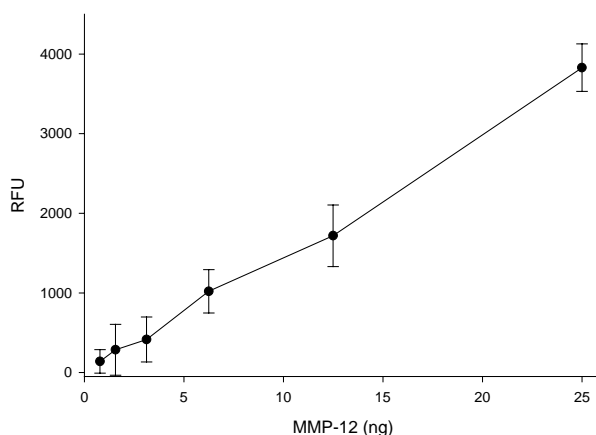

Figure 1. Sensitivity of the SensoLyte® 520 MMP-12 assay kit.
- Plot data as RFU versus concentration of test compounds or enzyme concentration (Figure 1).